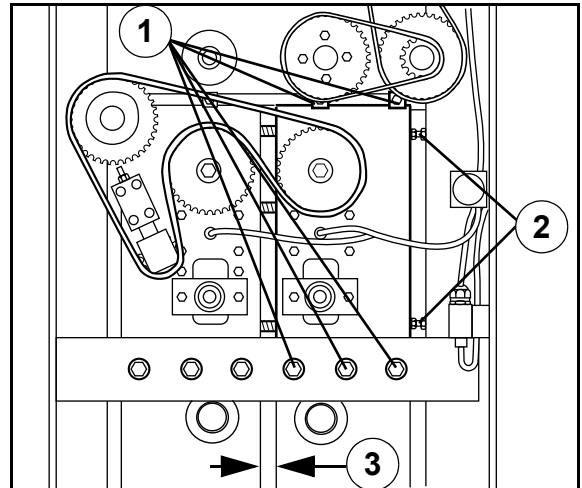

Fig. 26
- 2 Use the two adjusting screws to adjust the pressure between the sealing bars, see Fig. 26. Make sure that both screws are adjusted equally in order to keep the sealing bars parallel with equal sealing pressure during the sealing process.